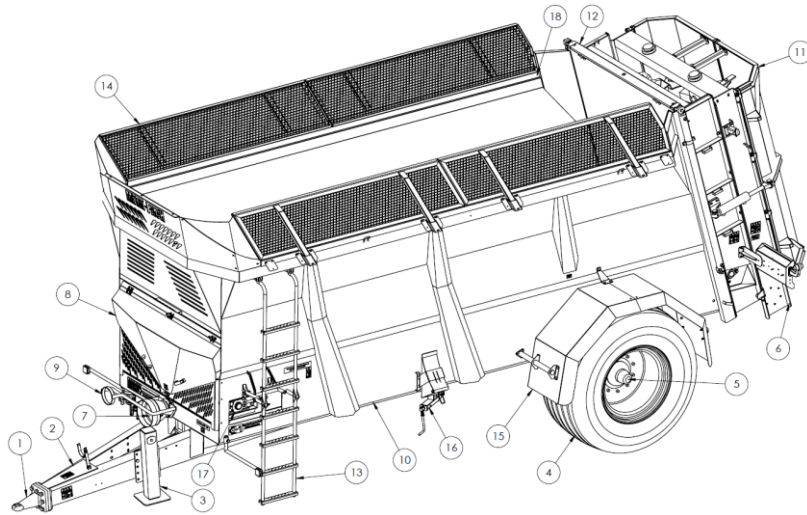

Figure 5 The main components of the manure spreader
The components of the spreader are shown in Figure 5. The main structural components include a monocoque structure (10) with a rigid single-axle wheelset (5). A sprung hitch equipped with a fixed drawbar eye (1) is used for connection with the tractor's lower hitch. It is also possible to mount the eye for a rotary and ball drawbar. A hydraulic support foot (3) is attached to the drawbar to support the spreader when it is not connected to the tractor, and to adjust the height of the drawbar during coupling.